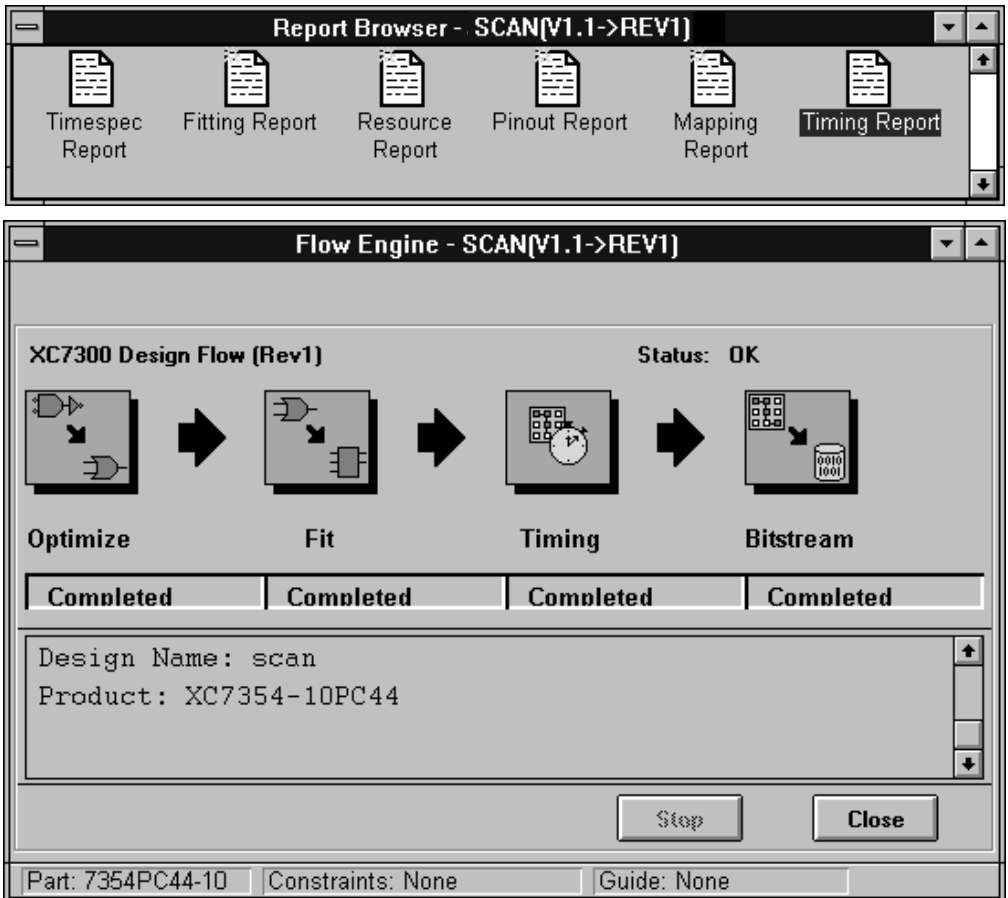

Figure 2-17 The Simplified Flow Engine with Report Browser
- **Run:** When all options are entered, click the Run button to implement your design. You will see the simplified Flow engine Dialog window along with the Report browser, as shown in Figure 2-17. As the simplified Flow Engine processes your design, you will see the reports highlighted as they are created.